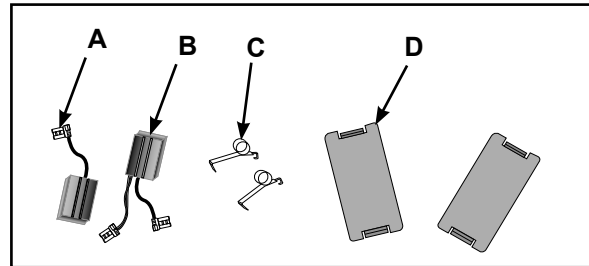

Figure 16
2. Verify the kit contents shown in Figure 16.
- A. Brush Assembly (1)
- B. Brush Assembly, with wear indicator wire (1)
- C. Spring Assembly (2)
- D. Cover, Brush access (2)